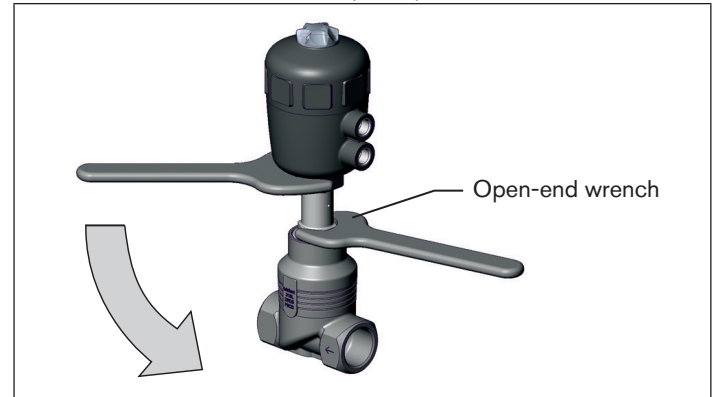

Fig. 19: Turning with open-end wrench
- ▶ Rotate the actuator module in the specified direction only (see "Fig. 19").